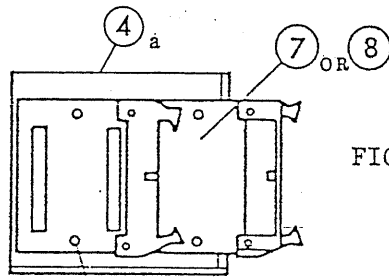

FIG. 4
- 1) Fix connector board A (7) or B (8) to I/F bracket (4). (See Figure 4.)